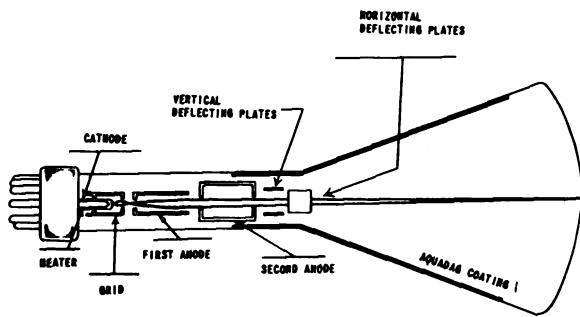

Figure 10. Typical electrostatic cathode-ray tube.
a. **Typical Cathode-ray Tube.** The cathode-ray tube is a special type of vacuum tube in which electrons emitted from a cathode are caused to move at a very high velocity, are formed into a narrow beam, and are then allowed to strike a chemically prepared screen which fluoresces or glows at the point where the electron beam strikes. The electron beam passes between two pairs of deflecting plates which may cause it to be deflected and to trace patterns on the screen which depend on the properties of the deflecting voltage applied to the deflecting plates. A diagram of a cathode-ray tube of the type used in Oscilloscope I-245-B is shown in figure 10. A